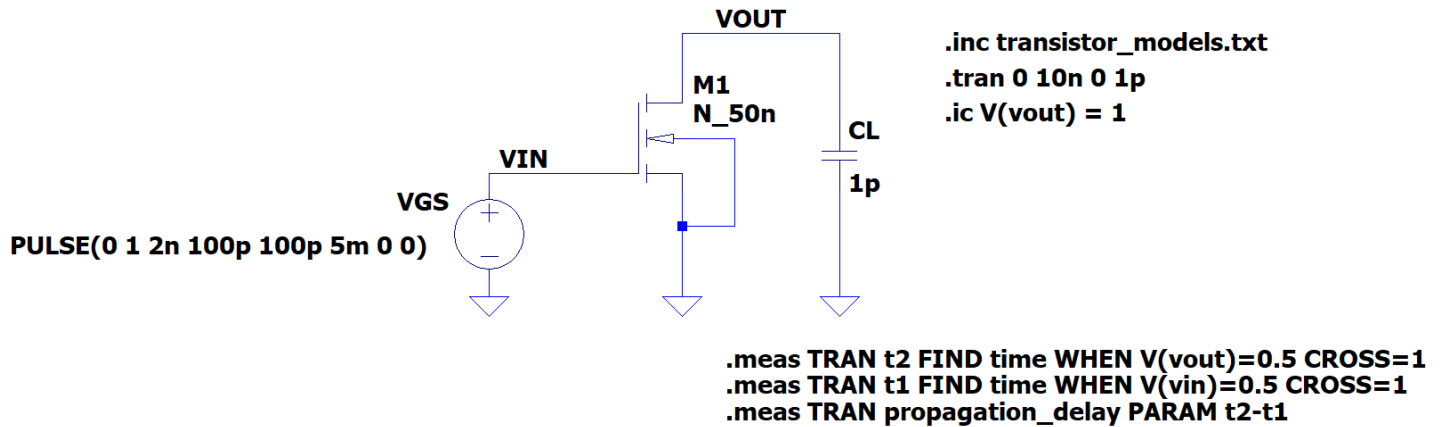
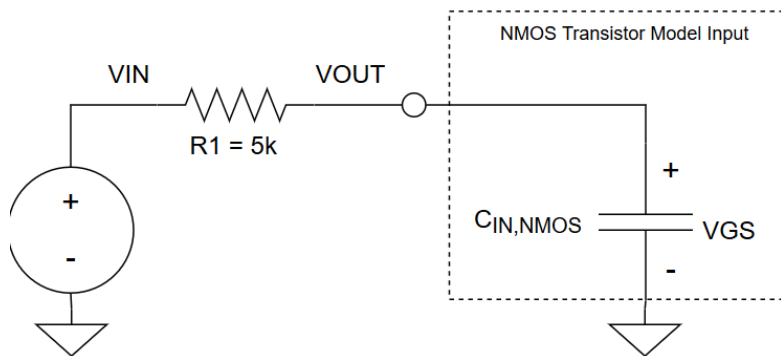

Figure 2.16 NMOS schematic with .meas spice directives
Figure 2.21 Extracting input capacitance
9. **Your circuit should now look like Figure 2.16.** Double check if the .meas spice directives are the same. If not, try to resolve these.
Looking at our schematic setup in Figure 2.19, it is equivalent to the model shown in Figure 2.21. Again, we emphasize that Figure 2.21 is a “description” or a “model” of Figure 2.19 but it does not perfectly describe what the actual input capacitance is. We are only trying to determine the “effective” input capacitance $C_{IN,NMOS}$ from this model. With this, we can use the same methodology in extracting the effective R_{NMOS} with $C_{IN,NMOS}$ by simply looking at the propagation delay between V_{IN} and V_{OUT} set in Figure 2.16. We hope you get the idea on the method of extracting the effective R_{NMOS} switching resistance and input capacitance of the transistor.
Let's take time and appreciate this S-curve. Figure 2.21 shows the voltage transfer curve for our inverter. It's called a voltage transfer curve because it literally shows how our input changes (transforms) into an equivalent output voltage. For every input, there is an equivalent output voltage. You should know that the x-axis is the input voltage V_{IN} while the y-axis is the output voltage V_{OUT} . For example, when $V_{IN} = 0\text{ V}$ then $V_{OUT} = 1\text{ V}$. When $V_{IN} = 1\text{ V}$, $V_{OUT} = 0\text{ V}$. It does what an inverter is supposed to do! That is to convert an input of 1 to 0 and vice versa. What's interesting though is that somewhere in between the range of $0.3\text{ V} \leq V_{IN} \leq 0.7\text{ V}$, the output is not exactly a 1 or a 0. Remember, this is a DC analysis, so say for example, we set $V_{IN} = 0.45\text{ V}$ for a very long time (because it's DC) then the resulting output is roughly $V_{OUT} = 0.80\text{ V}$. There is this region that does not produce an exact 1V at the output. From your lecture slides, this is the noisy region where the output cannot determine if the input is not even close to a "good" 1 or 0.